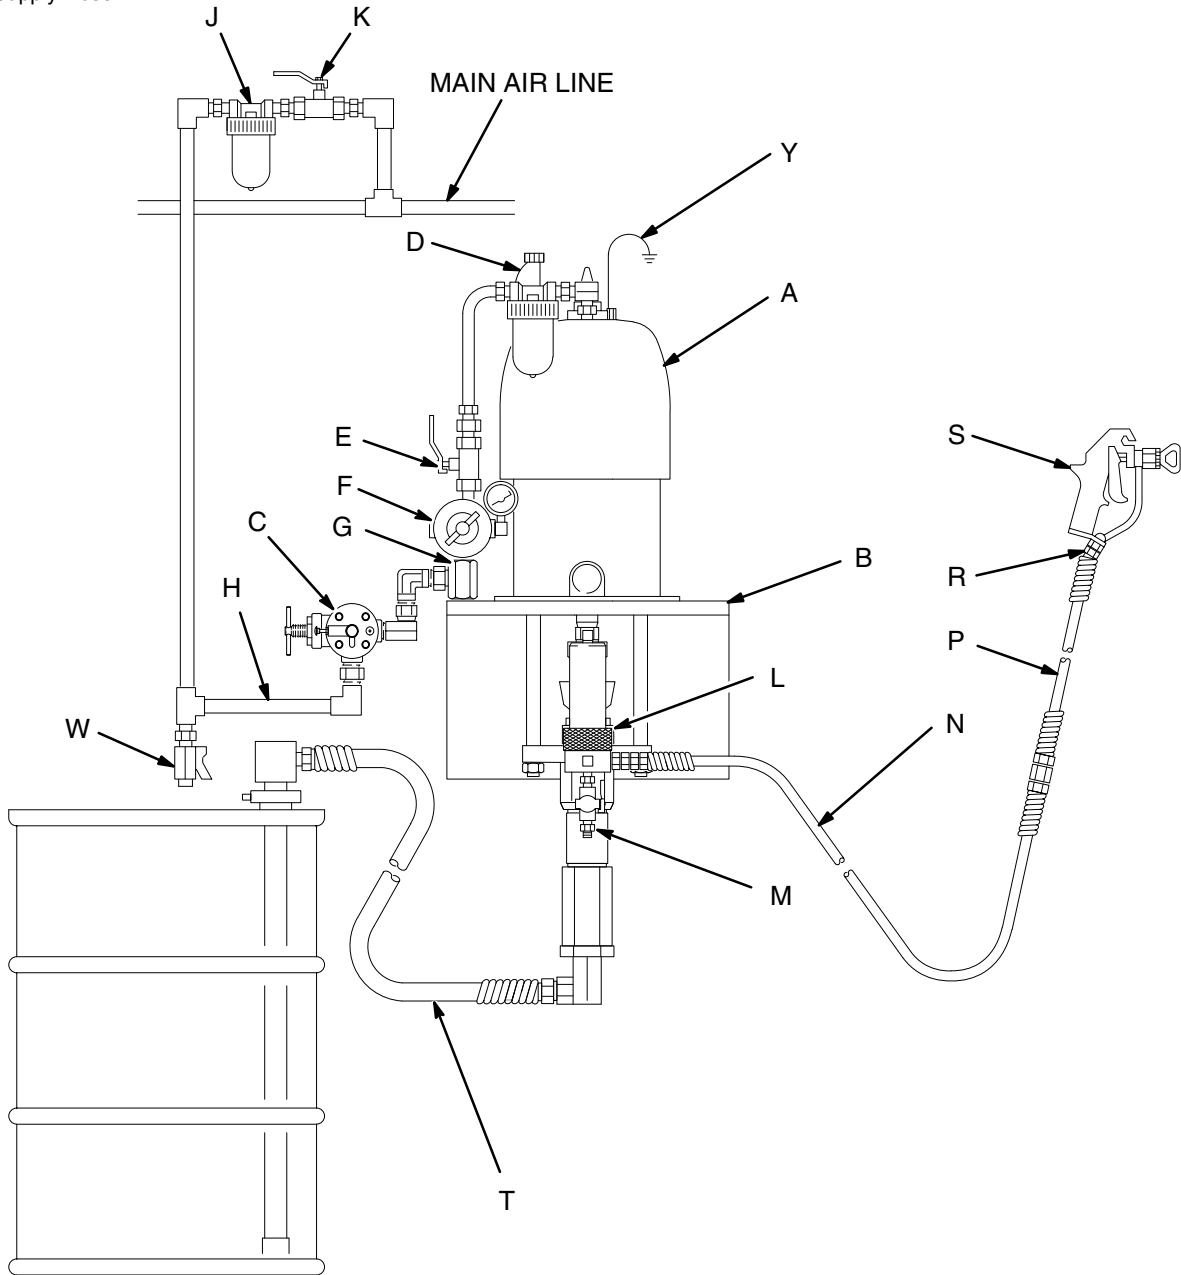

Fig. 2
Fig. 2 is only a guide for selecting and installing system components and accessories. Contact your Graco distributor for assistance in designing a system to suit your particular needs.
Mount the pump (A) to suit the type of installation planned. Fig. 2 illustrates a wall mount system. Pump dimensions and the mounting hole layout are shown on page 31.
Install the following accessories in the locations shown in Fig. 2, using adapters as necessary:
- **A fluid filter (L)** with a 60 mesh (250 micron) stainless steel element, to filter particles from the fluid as it leaves the pump.
- **A fluid drain valve (M)**, which is required in your system, helps relieve fluid pressure in the hose and gun (see the **WARNING** at left).
- **A gun (S)** dispenses the fluid. The gun shown in Fig. 2 is an airless spray gun for light to medium viscosity fluids.
- **A gun swivel (R)** allows freer gun movement.
- **A suction kit (T)** allows the pump to draw fluid from a supply container.
1. See Fig. 2. Connect the suction kit (T) to the pump's fluid inlet. Place the tube into the fluid supply.
2. Close the air regulator (F).
3. Open the pump's bleed-type master air valve (E).
4. Hold a metal part of the gun (S) firmly to the side of a grounded metal pail and hold the trigger open.
8. If the pump fails to prime properly, open the drain valve (M). Use the drain valve as a priming valve until the fluid flows from the valve. Close the valve.